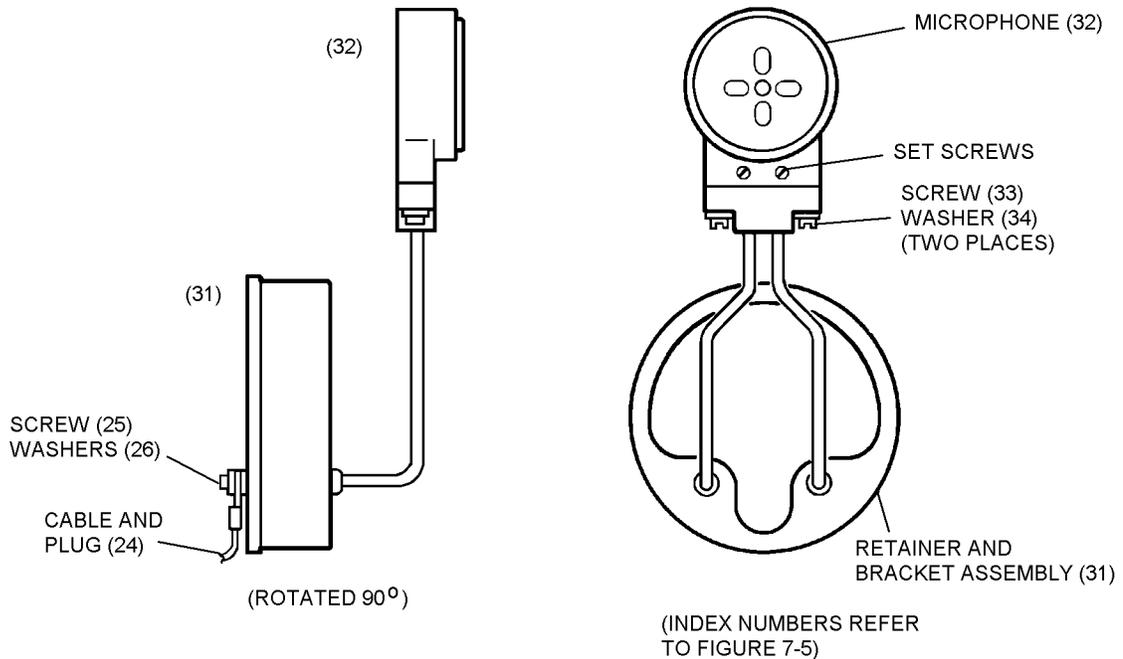

Figure 7-4. Microphone Retainer and Bracket Assembly
9. Using hose clamp pliers, remove hose clamp (5) then remove inhalation valve assembly (17) from facepiece (42).
10. Remove flapper valve (21) from inhalation valve body (22).
11. Remove exhalation valve assembly (14).
12. Reaching through cavity created by removal of exhalation valve assembly, remove socket head screws (25) and washers (26) which secure terminal cable and plug assembly (24) leads to contacts on microphone retainer and bracket assembly (figure 7-4) in nose cup (35).
13. Insert elastator into cable and plug opening in facepiece (42). Spread opening sufficiently to remove cable and plug assembly leads.
14. Remove nosecup inhalation valve assemblies (27) from nosecup (35) and remove flapper valve (28) from valve housing (29).
15. Remove nosecup (35) from facepiece (42).
16. Using hose clamp pliers, remove clamp (30) from nosecup (35), then remove microphone (32) and microphone retainer and bracket assembly (31) from nosecup (35).
17. Using jeweler's screwdriver, loosen set screws on microphone (32). Remove attaching screws (33) and washer (34), and remove microphone from microphone retainer and bracket assembly (31) (figure 7-4).
18. Remove nameplate (36) only if replacement is required.